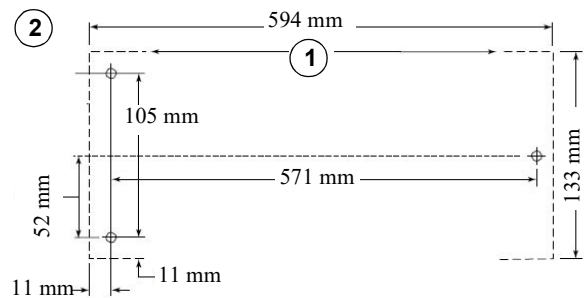

Fig. 4: Mounting on DB 305 VARIO
- Step 1: Measure and mark the three holes on the tabletop as shown in Fig. 4.